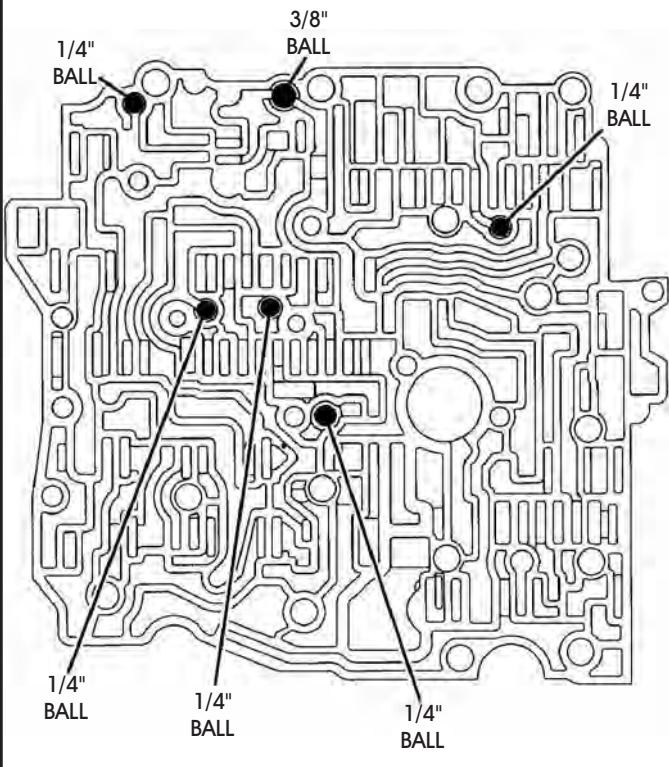

Figure 147
11. Install five (5) 1/4" steel balls and one (1) 3/8" steel ball, in locations shown in Figure 147, and retain with *small* amount of Trans-Jel®.